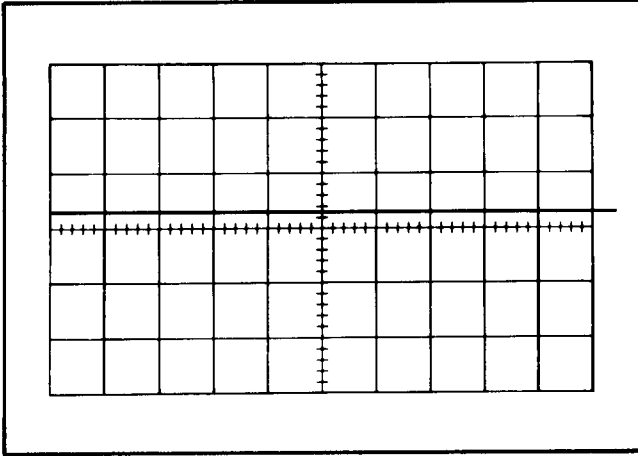

Fig. 6-32. Typical crt display showing correct common-mode rejection.
- i. Check—Crt display should be 0.4 division or less in amplitude (20:1; see Fig. 6-32).